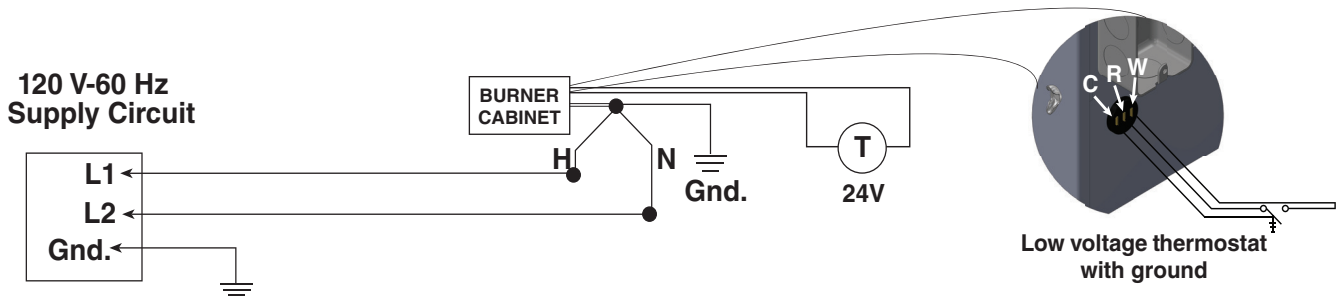
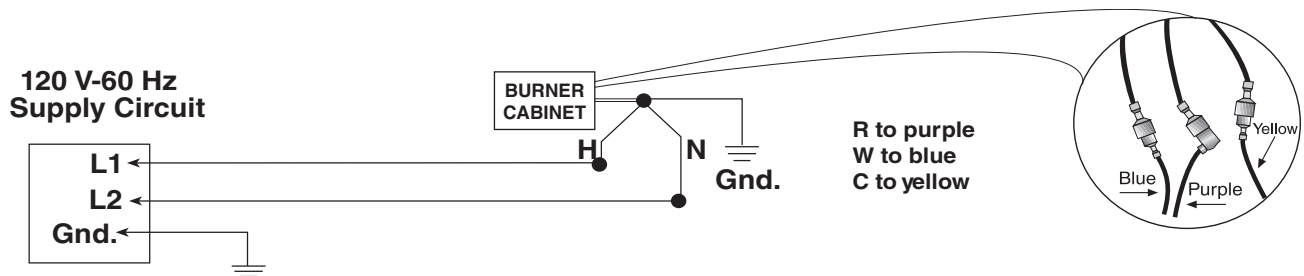
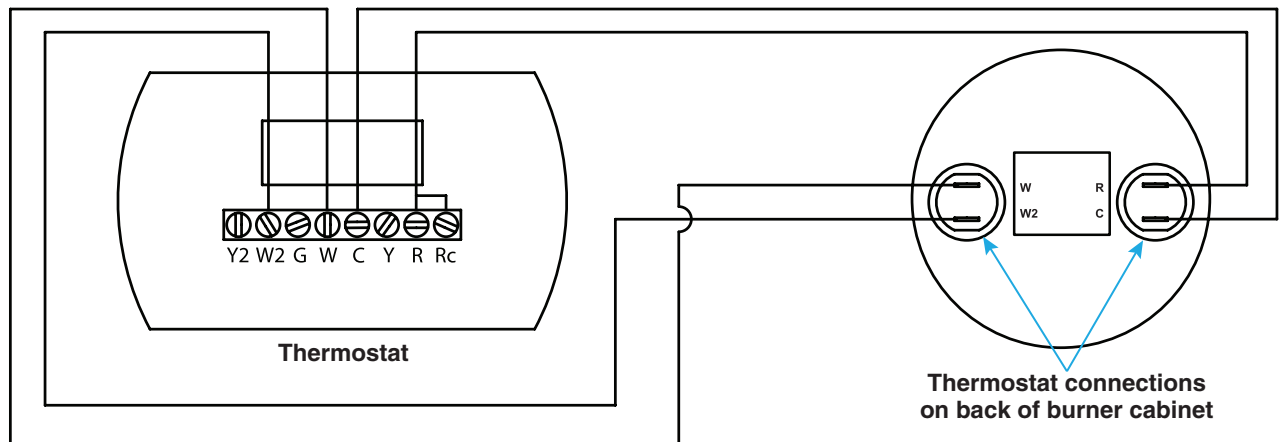

Figure 33. Model VZ Low Voltage Thermostat Wiring
Figure 34. Model VZH Low Voltage Thermostat Wiring
Figure 35. Model VZT Low Voltage Two-Stage Thermostat Wiring
- **Low voltage thermostat:** Install the low voltage thermostat in accordance with the thermostat manufacturer's instructions. Terminals R and C on the terminal strip provide 24V to the thermostat. For model VZ, connect wiring in accordance with Figure 33. For model VZH, connect wiring in accordance with Figure 34. For model VZT, connect wiring in accordance with Figure 35. For connecting multiple burner cabinets (up to eight), a separate transformer relay (option IRT1) must be installed. Refer to the manufacturer's installation instructions provided with the transformer relay and to the wiring diagrams in the replacement parts manual found at www.reznorhvac.com.